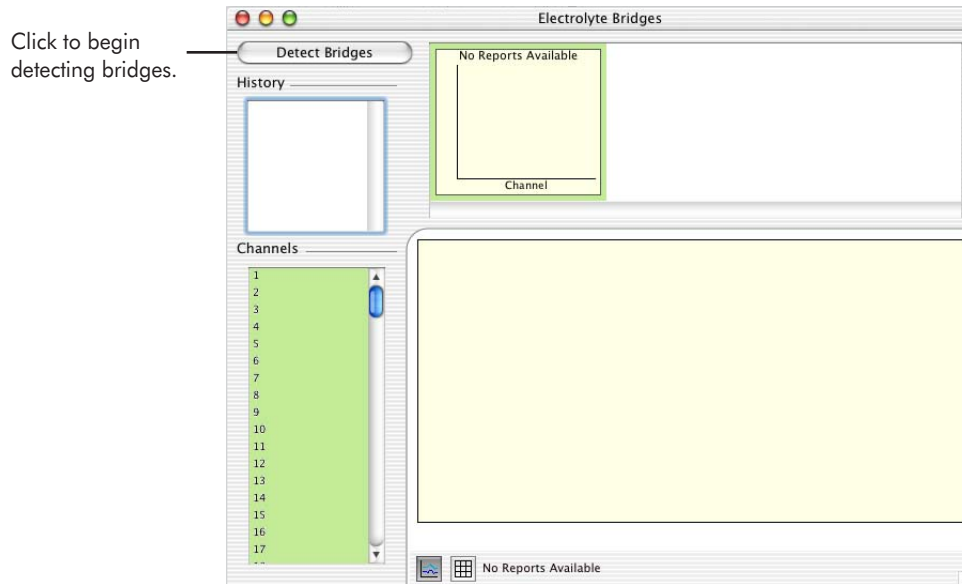

Figure 4-61. Electrolyte Bridges window
- 2 In the Electrolyte Bridges window (Figure 4-61), click the Detect Bridges button.